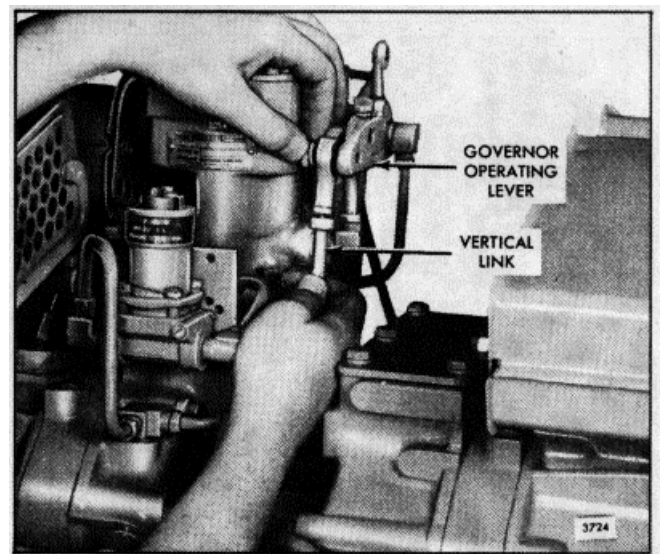

Fig. 16 - Adjusting Vertical Link
- 15. Adjust the length of the vertical link so that the bolt holes of the levers and the centers of the rod end bearings are lined up (Fig. 16).